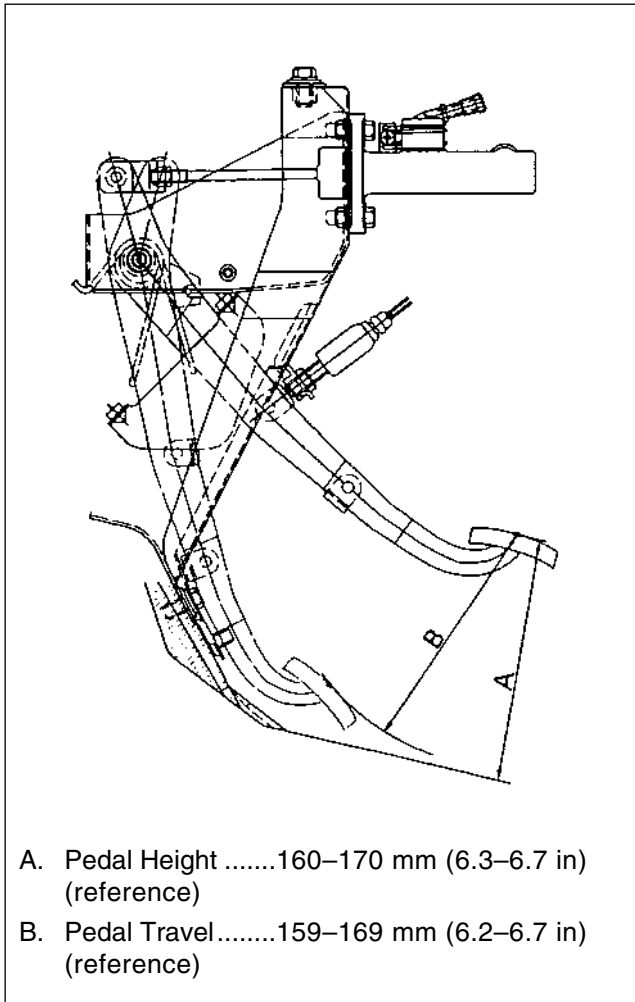

Figure 2. Clutch Pedal Height and Travel Adjustment
Adjust (Figures 2, 3 and 4)
2. Loosen the jam nut on the master cylinder push rod (figures 2 and 3).
Measurement (Figure 2)